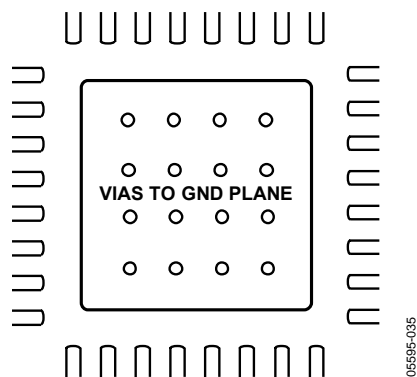

Figure 28. PCB Land for Attaching Exposed Paddle
**The exposed paddle of the AD9513 package must be soldered down.** The AD9513 must dissipate heat through its exposed paddle. The PCB acts as a heat sink for the AD9513. The PCB attachment must provide a good thermal path to a larger heat dissipation area, such as a ground plane on the PCB. This requires a grid of vias from the top layer down to the ground plane (see Figure 28). The AD9513 evaluation board (AD9513/PCB) provides a good example of how the part should be attached to the PCB.